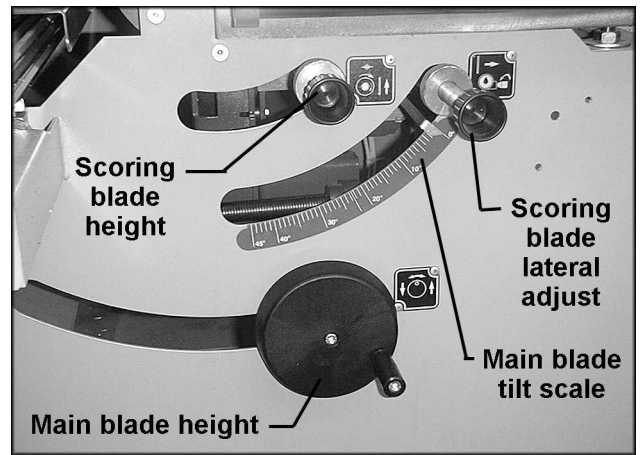

FIGURE 23
1. Turn the scoring blade height knob (Fig. 23). One turn raises or lowers the scoring blade by 3 mm.
2. Each time the main saw blade is resharpened or replaced, the scoring blade must be adjusted laterally to match the main blade teeth. This must be done to ensure a clean cut free of splintering. Lateral movement is obtained by turning the lateral adjustment knob (Fig. 23), then locking it at the desired setting.